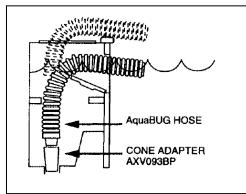

Figure 6
With the filter system turned **OFF**, connect the hose to the skimmer according to Figures 6, or 7.
**Figure 6** shows the proper way to connect the hose to a skimmer with a bottom suction port using the AEXV093BP Skimmer Cone Adapter (included).